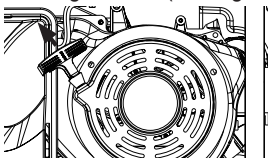

Figure 12 - Pull recoil
6. Firmly grasp and pull the recoil handle slowly until you feel increased resistance. At this point, apply a rapid pull while pulling up and slightly away from the generator (see Figure 12).